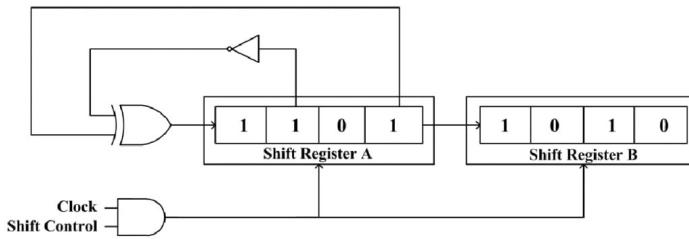

Fig. 5.10
10. In the circuit shifter in Fig. 5.10, the initial binary content of the shift register A is 1101 and that of shift register B is 1010. The shift registers are positive edge triggered, and the gates have no delay. When the shift control is high, which of the following are legitimate combinations of binary content of the shift registers A and B in any clock pulse? (GATE IN 2023)